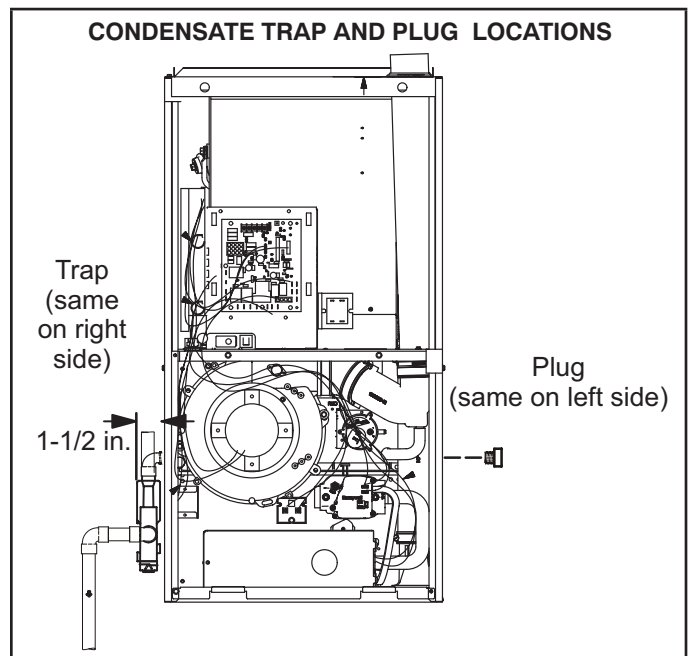
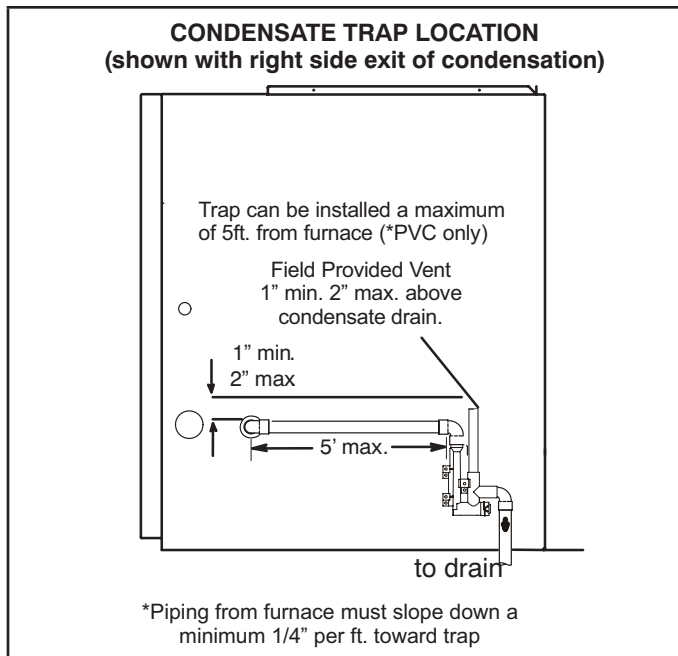

FIGURE 47
FIGURE 48
This unit is designed for either right- or left-side exit of condensate piping. Refer to FIGURE 47 and FIGURE 48 condensate trap locations.
- 2 - Use a large flat head screw driver or a 1/2" drive socket extension and remove plug (figure 47) from the cold end header box at the appropriate location on the side of the unit. Install provided 3/4 NPT street elbow fitting into cold end header box. Use Teflon tape or appropriate pipe dope.